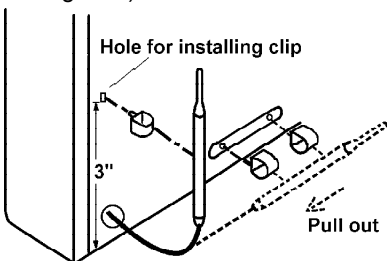

**Figure 4 - Mounting Clearances As Viewed From Front Of Heater**
**WARNING:** Maintain the minimum clearances shown in Figure 4. If you can, provide greater clearances from floor, ceiling, and joining wall.